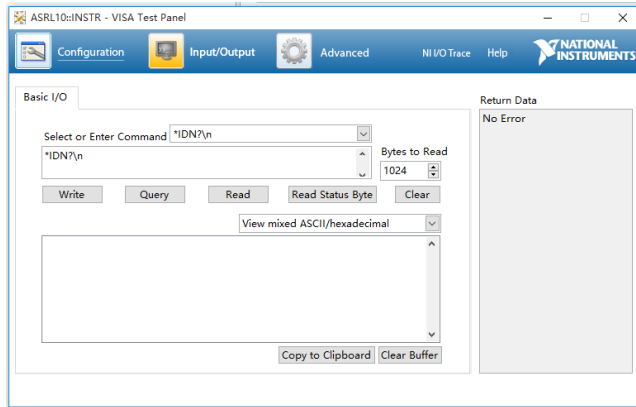

Figure 3-2
3. Click the “Input/Output” option of the box, enter the command in the command box, and click Write to make the command take effect. As shown in Figure 3-2 below.